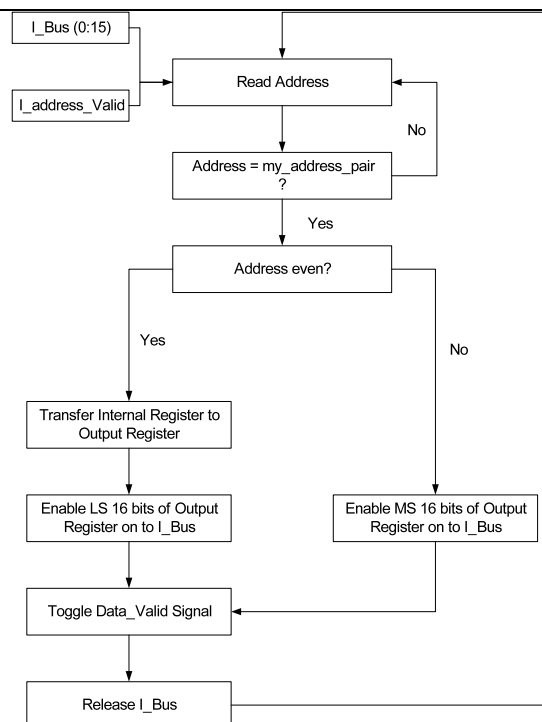

Figure 2. Summary of logic of reading data from the SCOUNT.
The number, N , produced by SCOUNT is 32 bits long. Therefore, the output has to span two addresses in order to provide the full 32 bits of N . When the SCOUNT is interrogated with its even address, it responds by (1) transferring the number, N , in the internal register to the output register and (2) placing the lower (least-significant) 16 bits of the output register on to the instrument bus. When the SCOUNT is interrogated with its odd address, it only places the 16 most significant bits of the output register on to the instrument bus and leaves the output register unchanged. Reading the even address followed by the odd address completes the transfer of the entire 32 bits of the number to the ODAS data acquisition system. It is important to remember that the internal register is updated continuously without any intervention by the user. The updating of the output register is done by interrogating the SCOUNT board with an even address. Interrogation of the SCOUNT board with an odd address does not update the output register. Therefore, the even address must always be read before the odd address. The odd address can be interrogated at any convenient time *after* the even address. The odd address does not have to follow immediately after the even address. The interrogation logic, or the reading of data from the SCOUNT is summarized in Figure 2